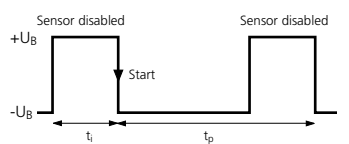

Fig. 2: External synchronization signal
- Apply a square-wave signal to the sync-input with pulse width t_i and repetition rate t_p (fig. 2 and technical data).